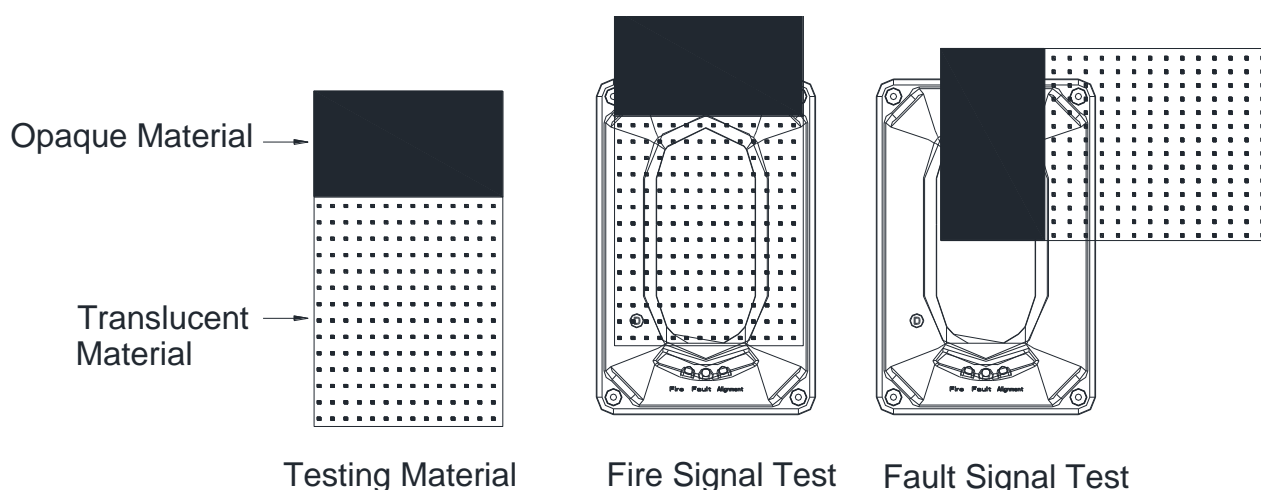

Figure 11: Testing Details
- a. Using supplied Opaque/Translucent materials, block the half of the beam detector with the translucent portion of the material. With less than 30 seconds the Red LED [Fire] will turn on steady, indicating Fire signal. [The fire alarm relay [HJ1 and HJ2 will latch to normally close]. Refer to Figure 11.
- a. Using supplied Opaque/Translucent materials, block the half of the beam using the opaque portion of the material. Right after the Yellow LED [Fault] turns on, indicating the fault signal. [The fault alarm relay GZ1 and GZ2] will latch to normally close]. Refer to Figure 11.